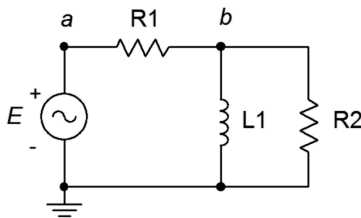

Figure 4.22
38. Given the circuit of Figure 4.22, determine a value for L such that v_b is 1 volt. The source is a 6 volt peak sine at 50 kHz, $R_1 = 510 \Omega$ and $R_2 = 220 \Omega$.